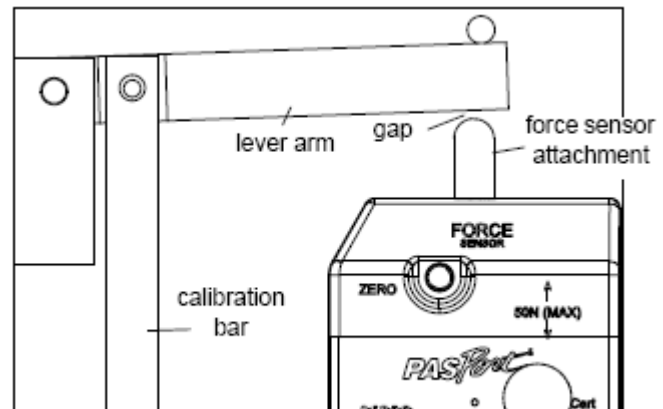

FIG.:4. Lever arm in the starting position
Turn the crank counter-clockwise and pull the lever arm away from the Force Sensor (Fig. 4).
2. **Place the lever arm in the starting position.** Turn the crank counter-clockwise and pull the lever arm away from the Force Sensor (Fig. 4).